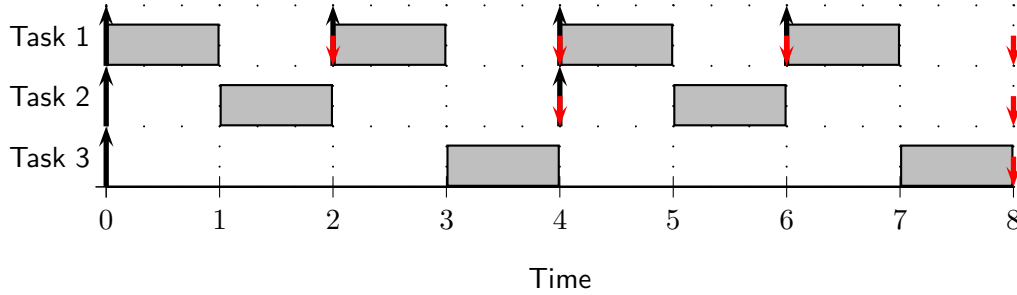

Figure 2: EDF Schedule.
- (b) (5 points) Schedule all tasks in Table 1 using Earliest Deadline First (EDF). In case of equal deadlines, a task with lower *index* has higher priority. Draw the EDF schedule in Figure 2. Is the EDF schedule the same as the RM schedule?